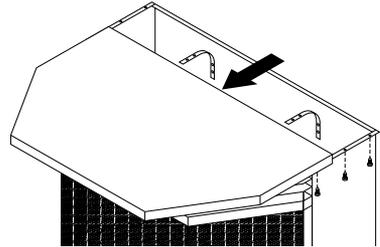

Figure 13 - Removing Stove Top Panel
1. Remove top panel of stove by removing 3 screws from under top lip on each side of stove (see Figure 13).
2. Facing front of stove, carefully slide top panel forward until it is completely removed from stove (see Figure 13).